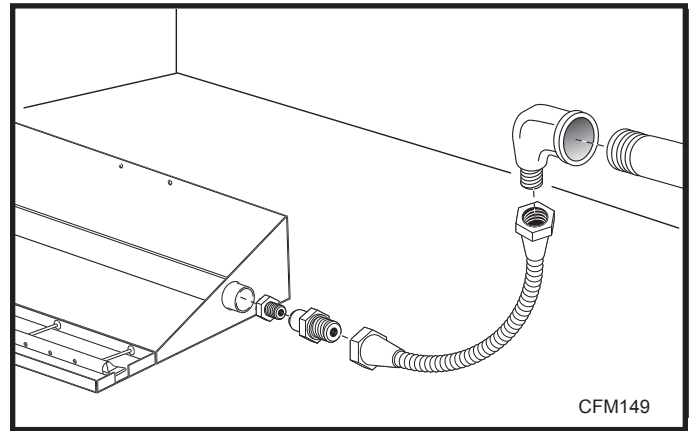

Fig. 2 Natural gas connection.
3. Attach the Gas Supply Fitting onto your fireplace's gas supply pipe, as shown in Figure 2.